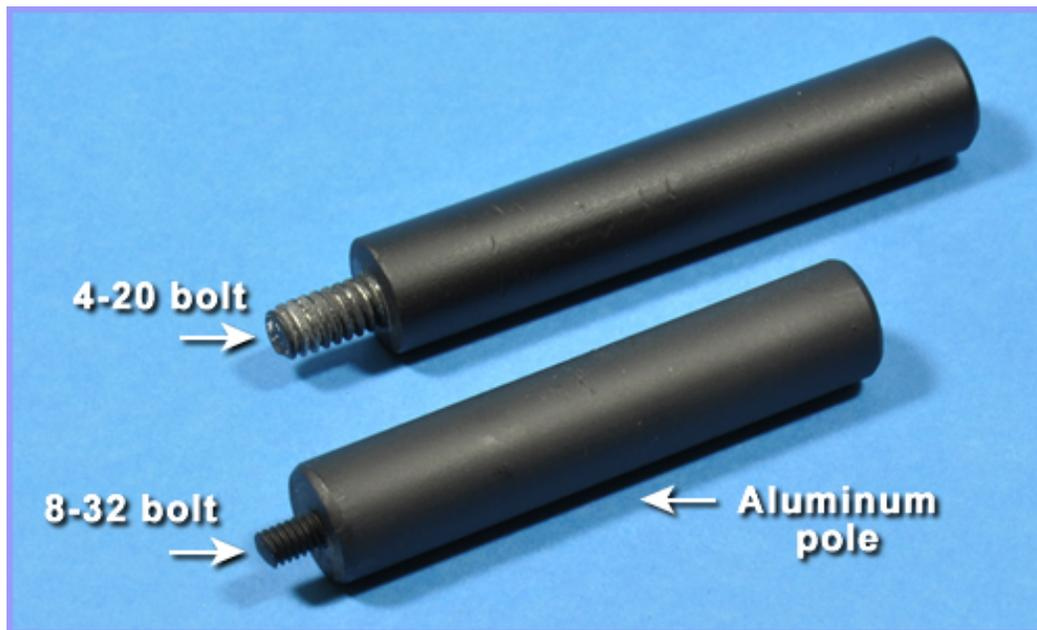

Figure 9: Short rod for attaching optic mount to table mount.
Each table mount will have a short rod (Figure 9 and Figure 8, part E) attached to it with a connector (Figure 8, part D). Some of these rods will have optical holders (Figure 8, part F) attached to them for the mirrors, diverging lenses, and the linear-gradient variable beamsplitter (if you're using one). Others will be used with the table mounts to mount the laser, parabolic mirror, plate holder, and object scene. You will need two different
- Next, in one of the pieces of Plexiglas, halfway along its length and centered, drill a hole completely through the Plexiglas using a 1/8 inch (0.32 cm) bit and tap an 8-32 thread for accommodating a short rod with an 8-32 bolt. A short rod (Figure 9), with an 8-32 bolt, is screwed into this hole and then the short rod is connected to a table mount using a connector (Figure 8).